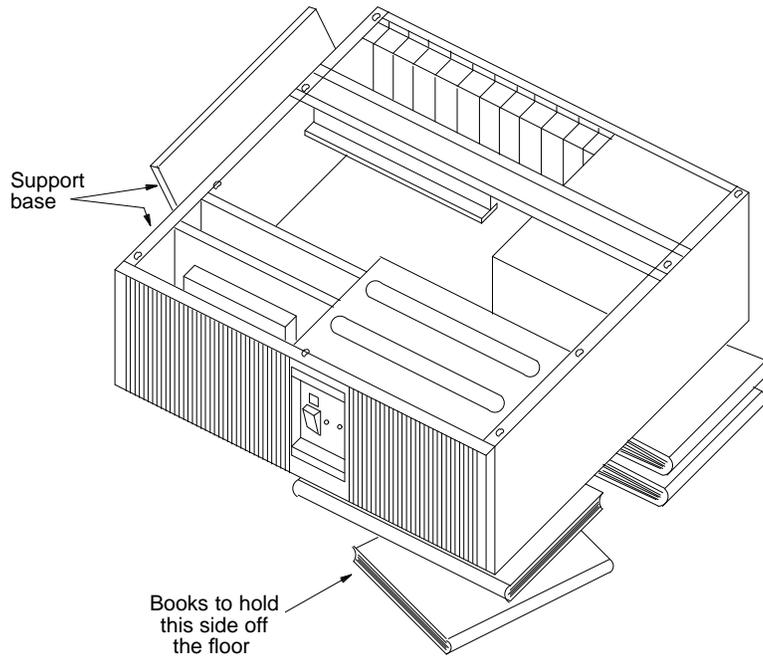

Figure 4-7. Working Within the Card Cage - Floor Position
- Turn the MAP/40 or 40s on its side, resting the side of the computer opposite from the support base on the two books (Figure 4-7).